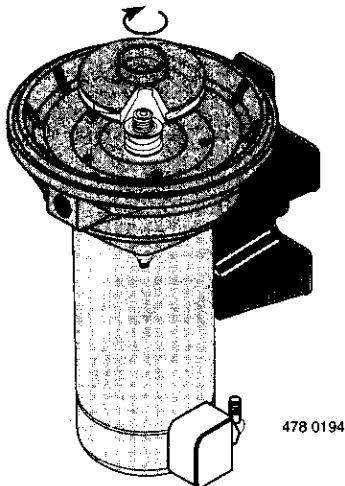

FIGURE 11
- I. Screw impeller on shaft (clockwise) while holding shaft with 7/16" open end wrench on shaft flats. This will automatically locate seal in place. See Figure 11.